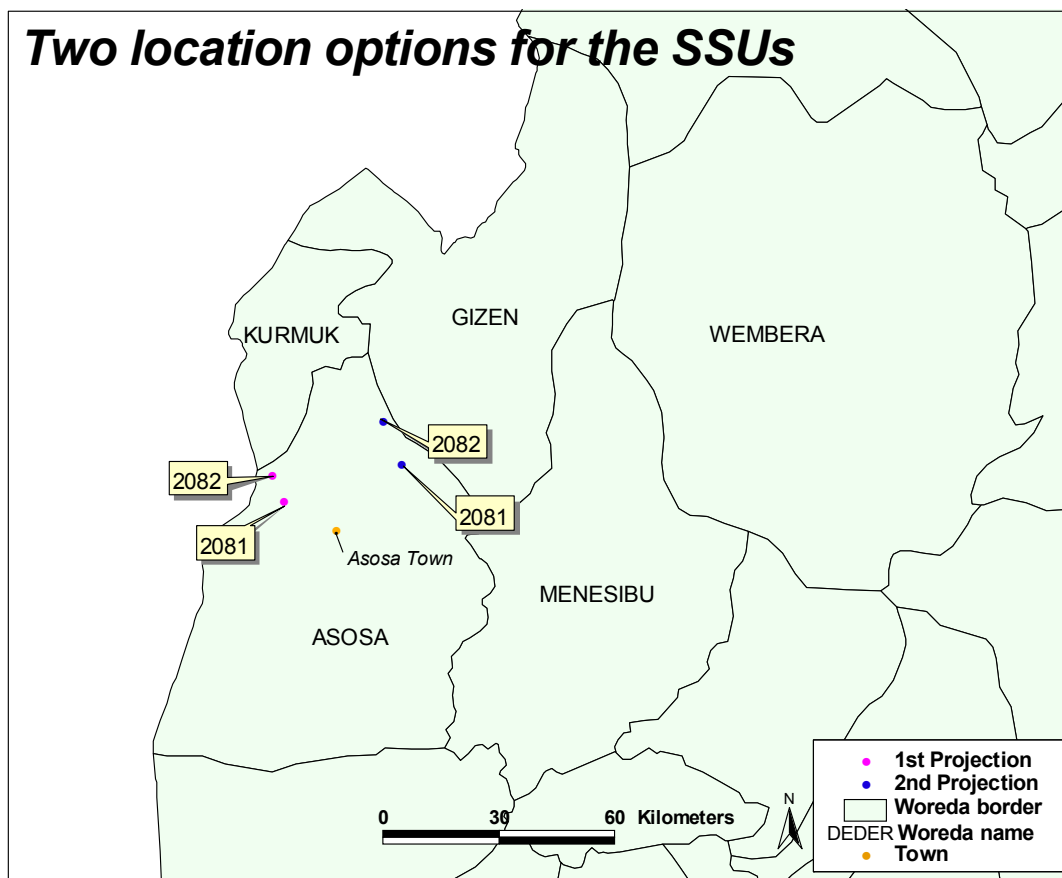

Figure 6 - Figure showing two possible projections in Ethiopia.
- 4) In case both projections are correct, try to find out which one is the correct one with the help of other sources of information such as the city or other sampling units locations. If this could not be solved, prepare figures in ArcView showing both projections in order to ask to the country which one is the correct one (see one example for Ethiopia in Figure 6):